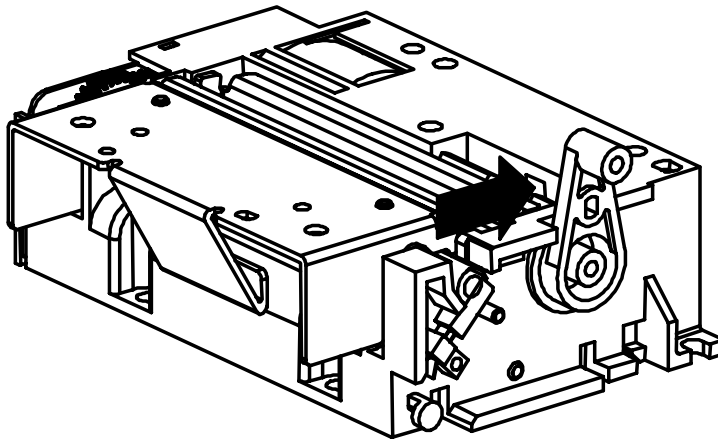

Figure 8-1 Loading Paper (1)
- Turn over the release lever to the direction of the arrow in the **Figure 8-1**.